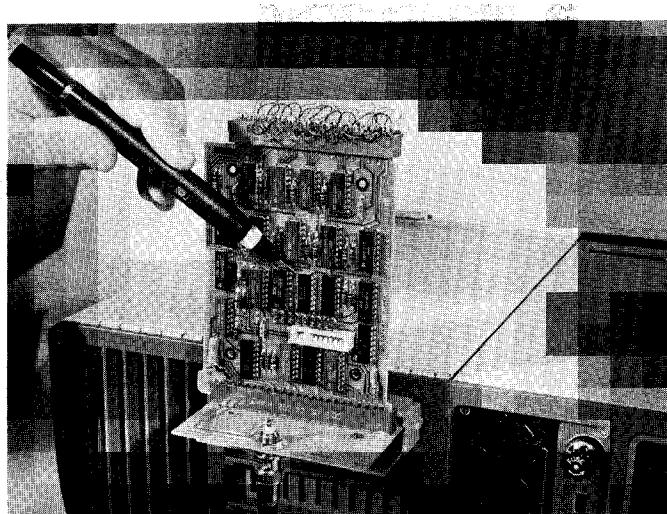

Figure 3-8. Troubleshooting with the Board Extender
- b) Plug the circuit board into the board extender, as shown in Figure 3-8. Be sure that the interface is *not* connected to a peripheral device!
- 1) Install the test connector onto the interface board, as shown in Figure 3-8. This connector provides hard-wired data and function inputs, to eliminate the need for a cable and peripheral device. If the connector is not available, one can be made by using the diagram on page 3-11.